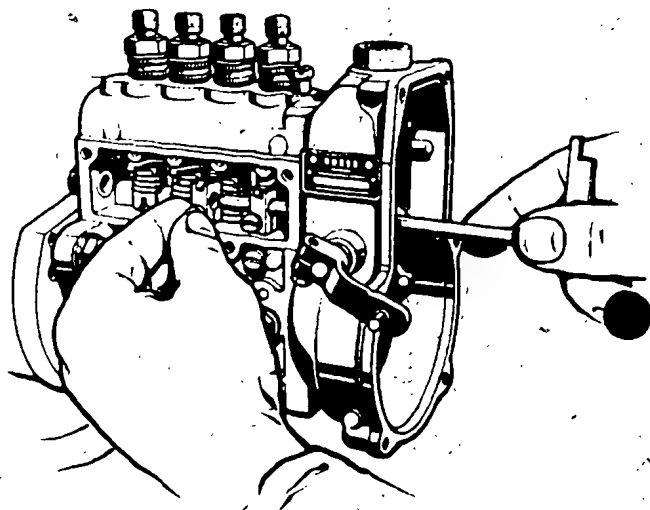
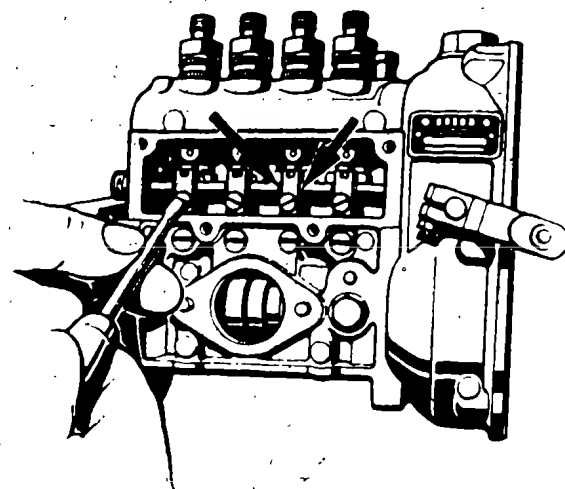

Fig. 12: Attachment of clamping pieces
Fig. 13 : Tighten clamping pieces on control rod in such a way that they lie exactly between the two marks.
Insert control rod (25) from governor side. At each element, allow pin in lever of control sleeve to engage in the groove of the clamping piece (18) and guide control rod through the bore in the clamping pieces (Fig. 12). (Tightening screw of clamping piece points forwards). When all clamping pieces have been attached, mount locating washer (27) on control rod. Take care that guide lever on control rod end also engages in guide pin (70) in the governor housing. By means of the tightening screw (29), now firmly secure each of the clamping pieces in the middle between the corresponding two lines marked on the control rod (Fig. 13). Check whether control rod still runs easily and whether control sleeves have still a slight up and down clearance.